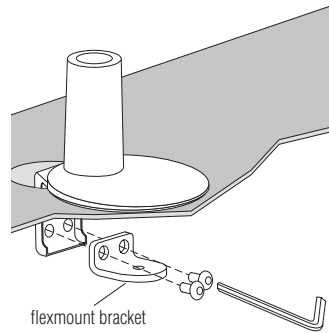

Figure 3
C. Grommet-mounted using hand-knob through a grommet hole 2" or larger in diameter (Figure 3).